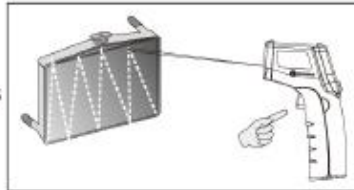

Figure 3
2. Locating a Hot Spot : Figure 3